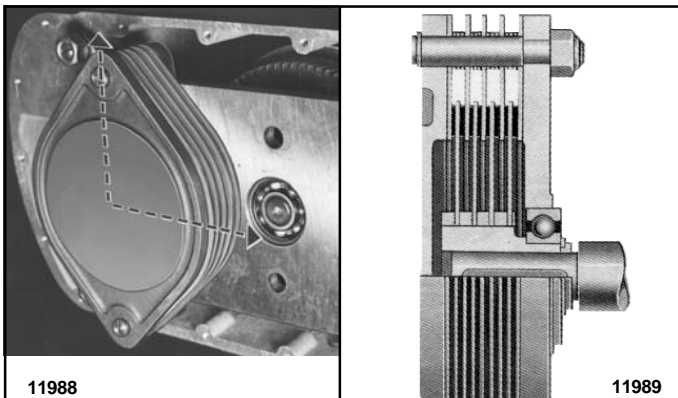
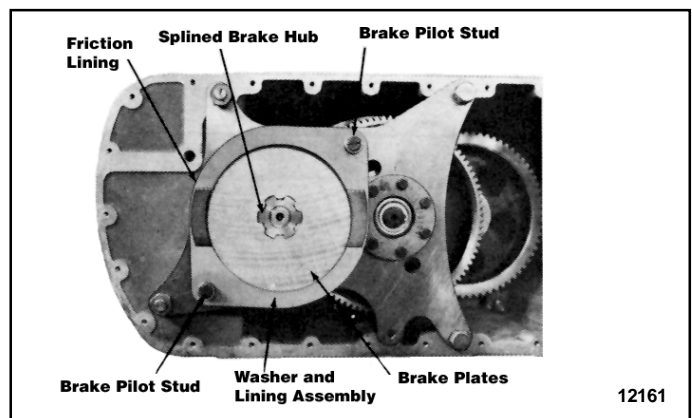

Figure 8-4. Motor brake friction plates
Figure 8-5. View Showing Friction Discs
**b. Construction.** The internal disc brake is a spring set, solenoid released electric brake which operates in the gear case lubricant. The brake consists of four brake discs which are fastened to the motor pinion shaft by means of a spline, and which revolve with the motor shaft. These discs are separated by stationary plates to which friction lining is bonded. The stationary plates slide over pilot studs fastened to the spider and which prevents the discs from rotating. Each stationary plate is separated by small springs mounted on the pilot studs. These springs act to separate each disc when the brake is released. The final stationary plate is solid (referred to as the compression plate), and post mounted. Retaining rings on the pilot stud holds the assembly together. See Figure 8-4 below.
- (1) Remove one hex socket button head cap screw from brake cover and lift brake cover off.
- (2) Unplug electrical leads and loosen set screw in gear case cover. Turn actuating mechanism counterclockwise, by hand or with a plumber's strap, and remove from gear case cover.
- (3) Check to see that brake plunger moves freely. Inspect for evidence of overheating or other damage.
- (4) Replace all worn or damaged parts. Operating spring on actuating mechanism is color coded for brake torque; when replacing spring use spring having same color code. When replacing body assembly, also replace brake operating spring.
- (5) If conditions warrant that inspection of the brake discs is required (Figure 8-5 below), drain oil from gear case. Remove brake actuating mechanism per Paragraphs 8-5.d.(1) and 8-5.d.(2) above. Remove hex head cap screws which secure gear case cover to the gear case. Remove gear case cover from gear case.
(6) Remove retaining rings from the brake pilot studs and lift off the compression plate. Lift off washer and lining assemblies, release springs, and motor brake plates. (Note for reassembly, that two of the washer and lining assemblies have friction surfaces on one side only and must be replaced at each end. Three washer and lining assemblies, with friction surfaces on both sides and release springs; are replaced between the motor brake plates; see Figure 8-4.) Check motor brake plates for warping, scoring or other signs of deterioration. Also check spline fit of motor brake plates to the brake hub for gouging, mushrooming of the plates or other signs of distress or wear. Replace plates if these conditions are found. Brake plates which are replaced because of spline wear should also receive a replacement brake hub. Check condition of friction material on the washer and lining assemblies, and replace assemblies if required. Reinstall brake plates, release springs, and friction washers in sequence as shown in Figure 8-4 and replace retaining rings. On most hoists (DMR-2 through DMR-5) it is possible to get the lining assemblies misoriented. When installed properly the friction linings will be on a horizontal line (not vertical). See Figure 8-5. Clean and flush gear case and replace gear case cover using a new gasket. Refill with new lubricant.